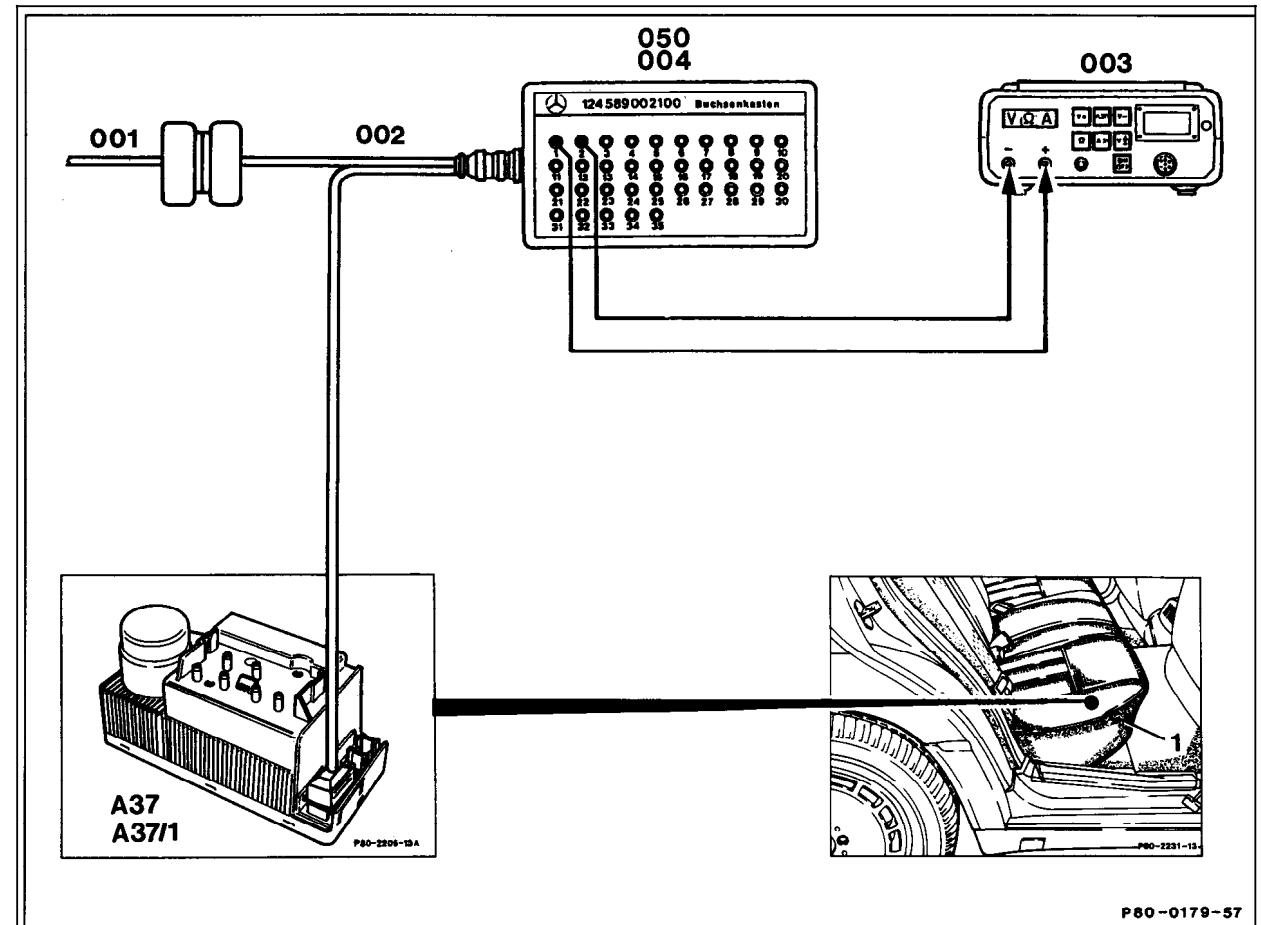

Figure 1
4. Connect socket box with test cable according to connection diagram, see 22 Figure 1.